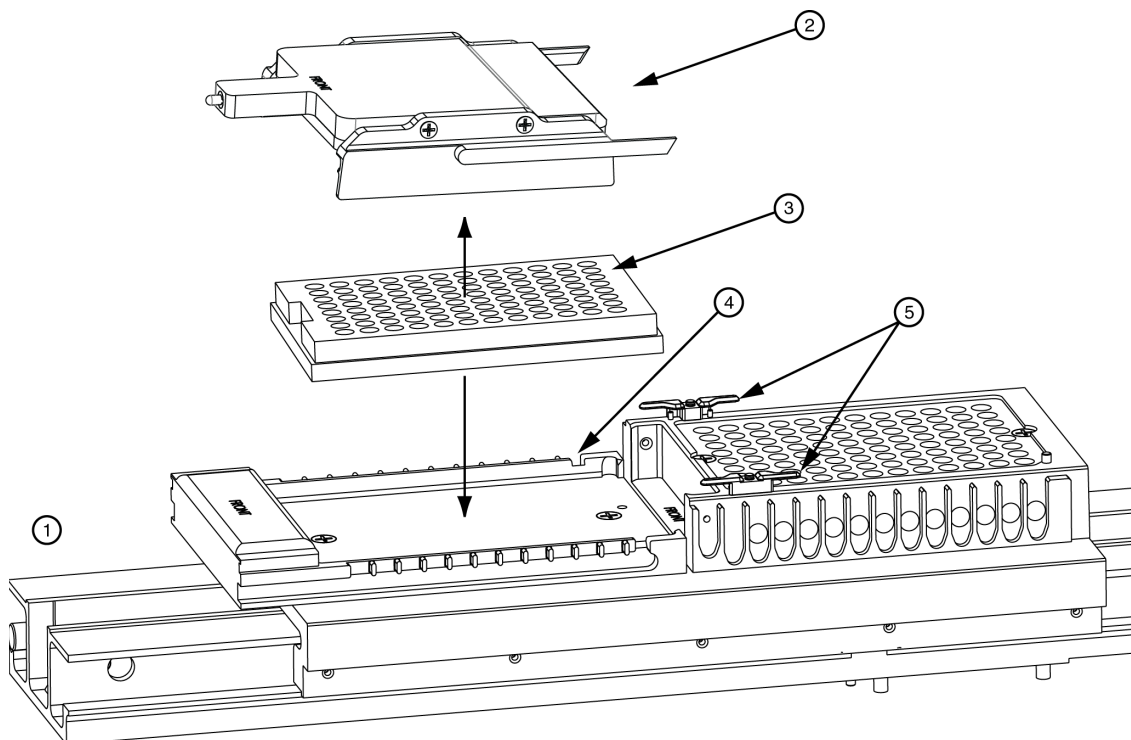

Figure 9.16 Loading the Buffer Plate and Buffer Evaporation Cover
- Align the notched corner of the buffer plate with the alignment line on the buffer plate holder (Figure 9.16).